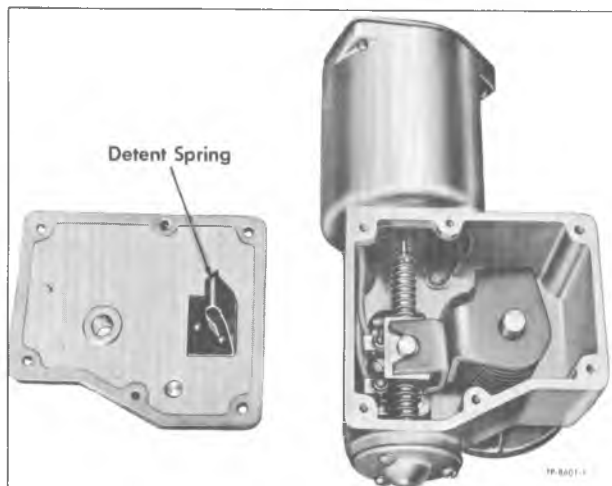

Figure 12—Position of Drive Nut When Disassembling
3. Turn drive screw by hand to run nut to mid-way position on drive screw, similar to figure 12. This is necessary to prevent damage to drive nut contact bumper.
1. Remove six screws (28) and lock washers which attach cover (26) to shift motor housing (8). Drain lubricant from housing. Remove gasket (25).
2. After removing cover (26), the drive screw (20) nut will be at either top or bottom depending upon the position in which the control switch was last left.
3. By turning drive screw, run nut from top or bottom to the center of the screw (fig. 12).